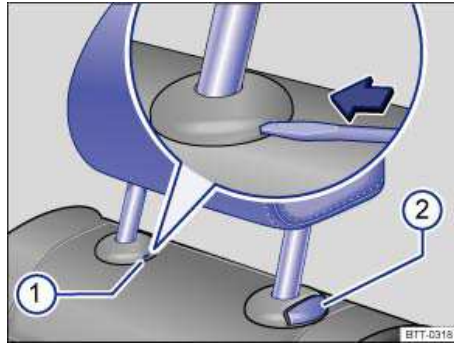

Fig. 46 Removing the rear head restraints.
- If necessary, press the flat blade of the screwdriver from the vehicle tool kit into the slit of the trim cap ⇒ fig. 46 \(1\) in the direction of the arrow and hold it in this position.